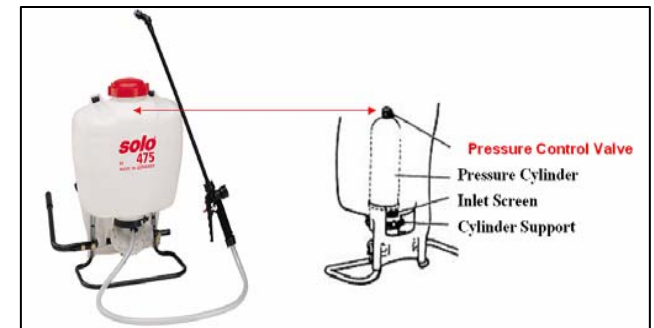

Fig. 44. Pressure Control Valve.
- b. To increase the pressure, choose the higher number. They are numbered 1, 2, 3, 4. 1 = 15 psi, 2 = 30 psi, 3 = 45 psi, 4 = 60 psi. The higher the pressure, the more pesticide applied from the sprayer in a given amount of time, but the droplets will be smaller with more drift (Fig. 44).